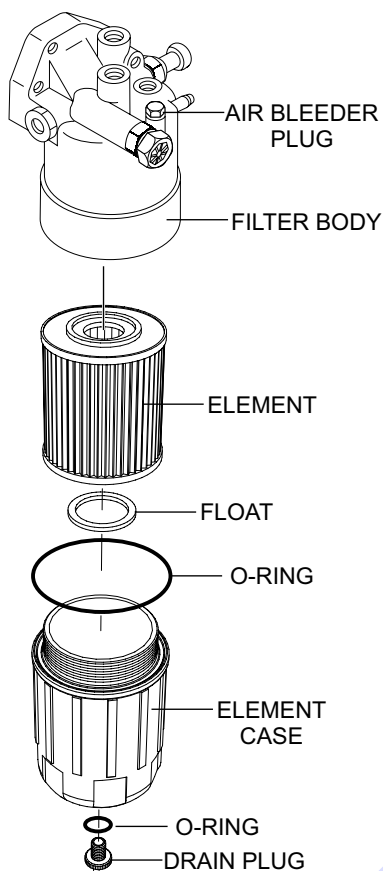

Figure 63. Fuel Filter Replacement
1. Use a filter wrench to remove the element case (Figure 63) from the fuel filter body.